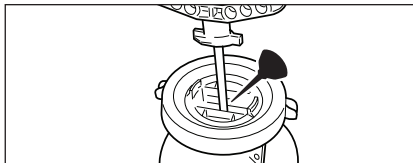

Figure 10. Lubricate the Pump
1. Pump should be periodically oiled by applying 10 to 12 drops of light oil down the pump rod through the opening in the pump cap. See Figure 10.